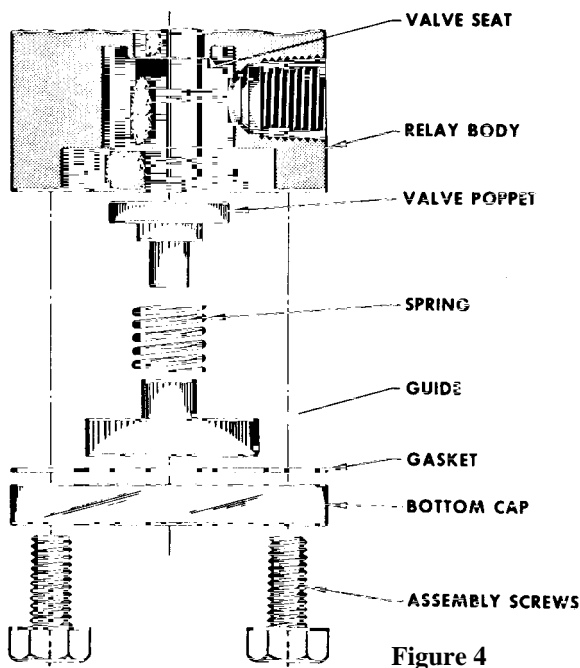

Figure 4
- A. If excessive leakage occurs at valve seat, remove bottom cover. Clean poppet and seat with soft, dry cloth (See Figure 4).